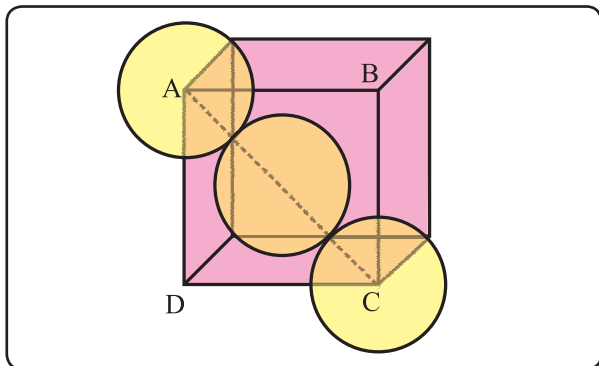

Fig. 1.11 : fcc unit cell
Step 1 : Radius of particle/sphere : The corner particles are assumed to touch the particle at the centre of face ABCD as shown in Fig. 1.11.
Figure 1.11 shows that $AC = 4r$. Substitution for AC from Eq. (1.13) gives